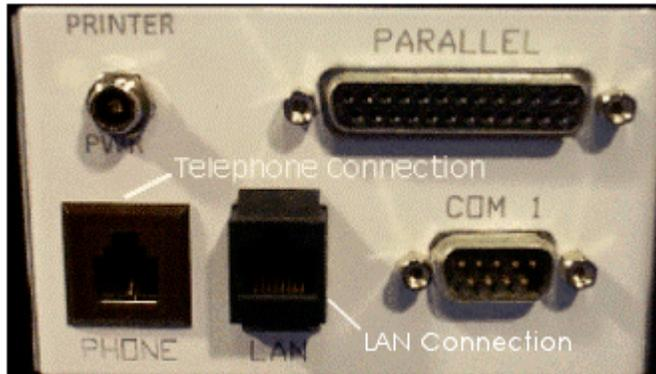

Figure 19 Telephone Connection
- Connect an RJ11 phone cable (a regular phone line) from the phone connection in the back of the case (shown in Figure 19) to the phone connection desired.
- Connect an RJ45 LAN cable (looks like the RJ11 phone line except a little thicker) from the LAN connection in the back of the case (shown in Figure 19) to the LAN connection desired.